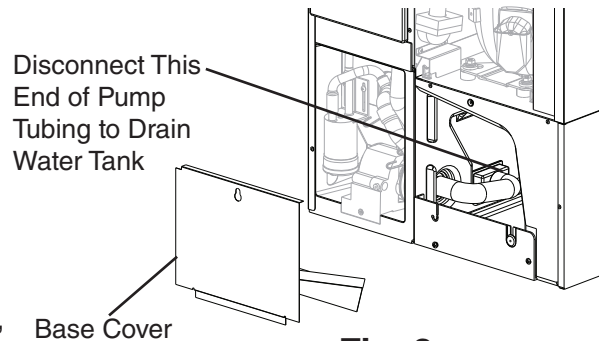

Fig. 3
- 3) Drain the water tank. Remove the base cover, then disconnect one end of the pump tubing to drain the water tank. See Fig. 3. After the water tank has drained, reconnect the pump tubing.